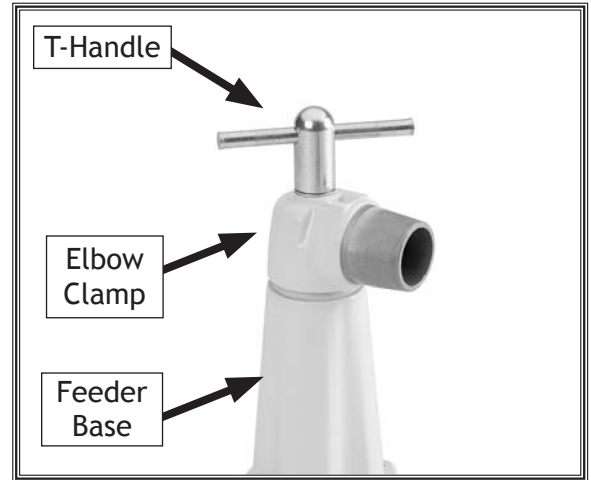

Figure 5. Assembled elbow clamp assembly.
1. Oil the T-handle threads and position the elbow clamp assembly onto the feeder base as shown in **Figure 5**.